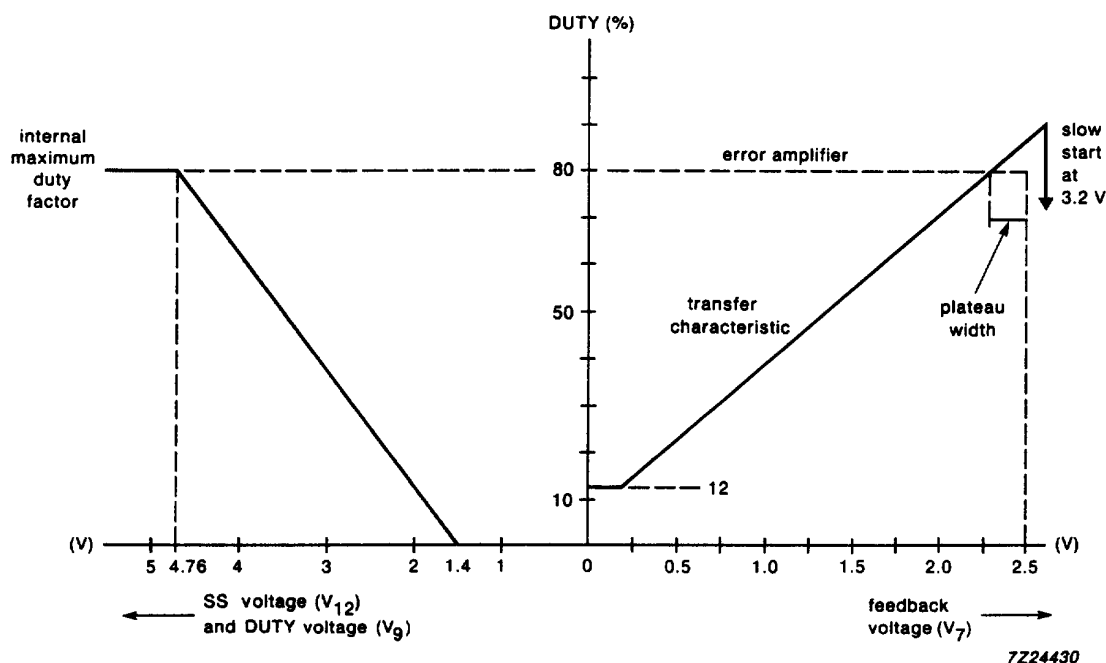

Fig.8 The duty factor as a function of the FB, SS and DUTY voltages.
The feedback (FB) input (pin 7) is used as the input to the Transfer Characteristic Generator (TCG) circuit which ensures well defined duty factors at low FB voltages; a voltage foldback is an inherent characteristic. In Fig.8, the duty factor is shown as a function of the voltages at the FB, DUTY and SS inputs. The input which gives the lowest duty factor overrides the others.
TCG function (see Fig.8)